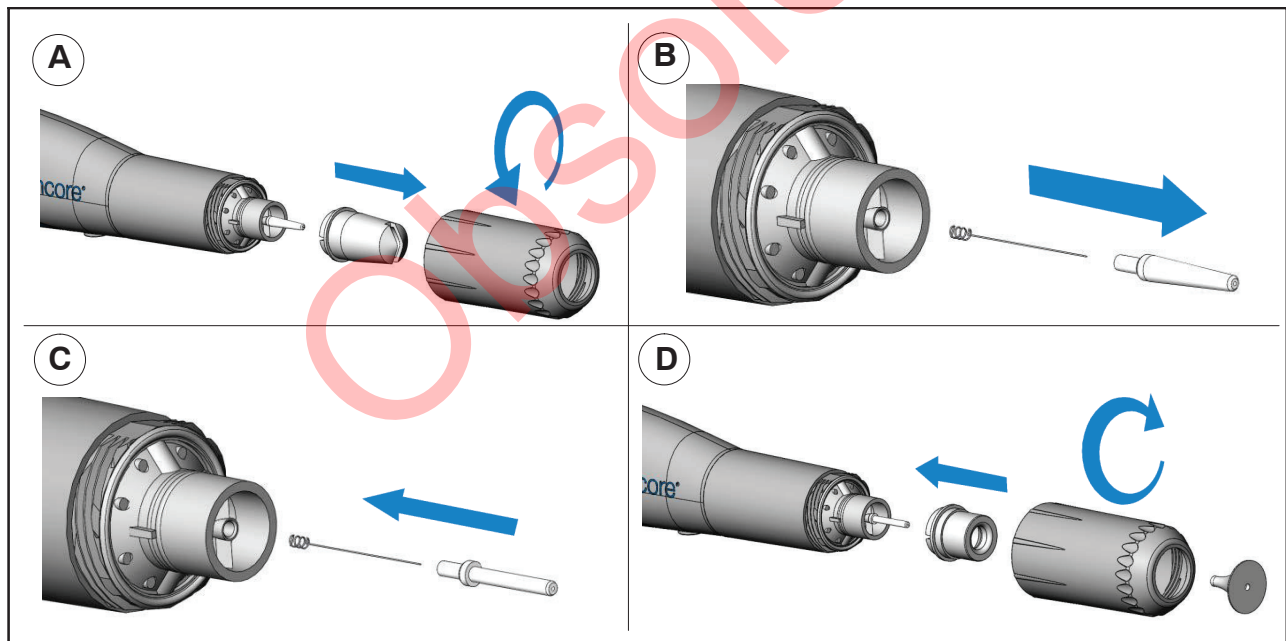

Figure 4-2 Converting from a Flat Spray Nozzle to a Conical Spray Nozzle
2. Convert the electrode holder and the nozzle. See Figure 4-2.